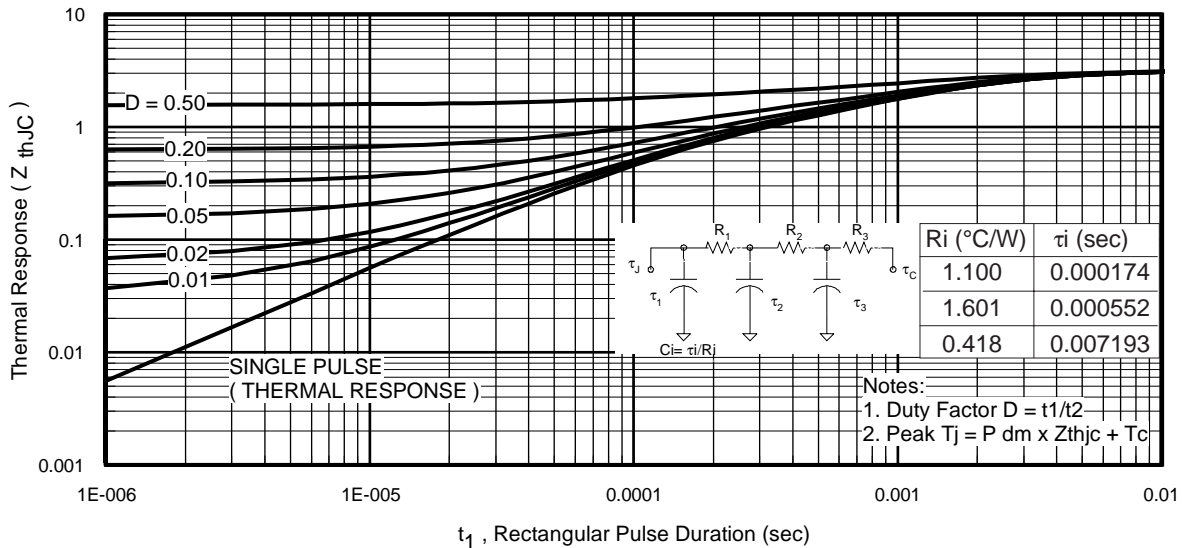

Fig 11. Maximum Effective Transient Thermal Impedance, Junction-to-Case
$Z_{thJC}(D, t_{av})$ = Transient thermal resistance, see figure 11)
- ① Repetitive rating; pulse width limited by max. junction temperature. (See fig. 11).
- ② Limited by T_{Jmax} , starting $T_J = 25^\circ C$, $L = 0.18mH$, $R_G = 25\Omega$, $I_{AS} = 18A$, $V_{GS} = 10V$. Part not recommended for use above this value.
- ③ Pulse width $\leq 1.0ms$; duty cycle $\leq 2\%$.
- ④ C_{OSS} eff. is a fixed capacitance that gives the same charging time as C_{OSS} while V_{DS} is rising from 0 to 80% V_{DSS} .